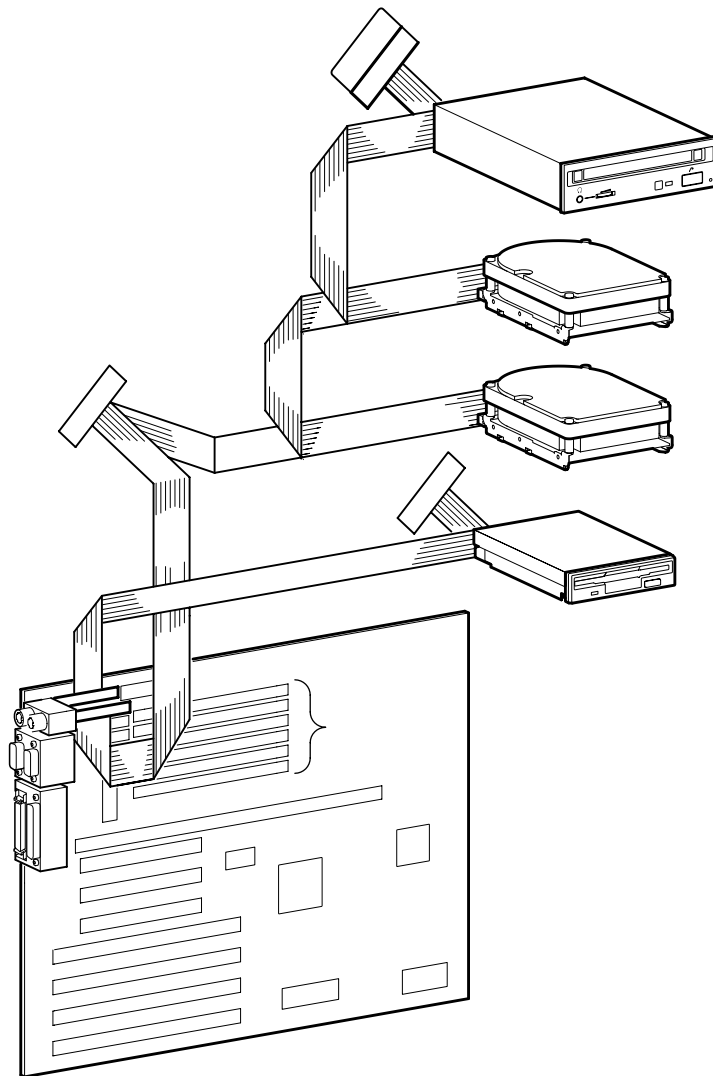

Figure 3-11. SCSI and FDC Cable Configuration
8. Connect the SCSI cable to the device. Figure 3-11 shows a cabling configuration using one floppy diskette drive and three SCSI drives. If you have a SCSI tape drive, it will connect to the SCSI cable. If you have an FDC tape drive, it will connect to the FDC cable (the same cable used by the floppy diskette drive).